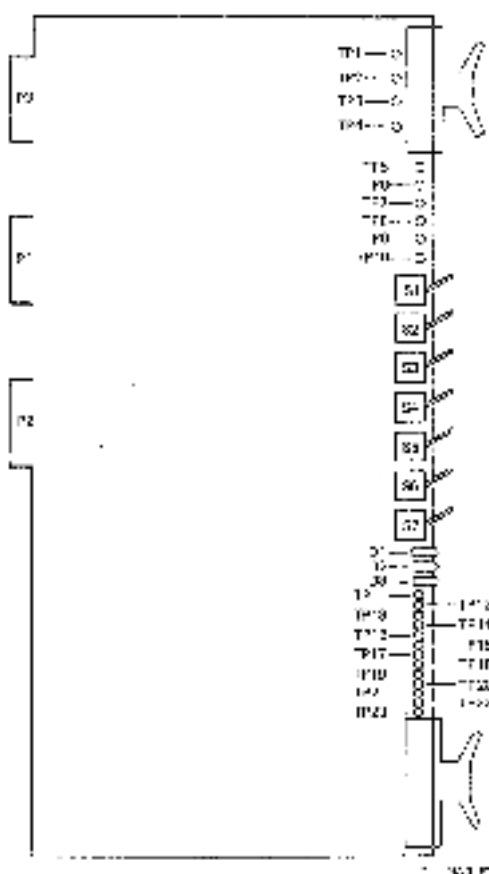

Figure 2-1 M8540 MTA Schematic and Test Points
Figure 2-1 shows the indicators, switches, and test buttons used for troubleshooting on the MTA PCBA. Tables 2-2, 2-3, and 2-4 list their functions.
1. Switches shown in Figure 2-1 are set to the right.
Table 2-2 M8940 MTA Test Points (Figure 2-1)
Table 2-3 M8940 MTA Indicators (Figure 2-1)
Table 2-4 M8940 MTA Switches (Figure 2-1)